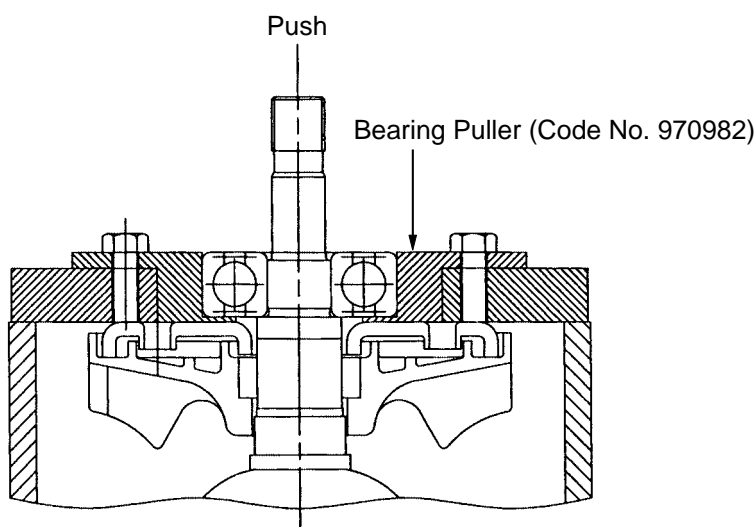

Fig. 11
1. Open the Lever **[31] <31> (31)** and loosen the Bolt M8 x 22 **[32] <32> (32)**, and remove the Wheel Guard Ass'y **[36] <36> (36)**.
2. Loosen the Tapping Screw (W/Flange) D4 x 16 (Black) **[49] <48> (49)**, and remove the Brush Cover **[48] <47> (48)**.
3. Remove the two Carbon Brushes **[50] <49> (50)** from the Brush Holders **[53] <52> (53)**.
4. Remove the four Tapping Screws (W/Flange) D5 x 35 **[2] <2> (2)**. The Armature **[13] <13> (13)** can then be taken out simultaneously with the Gear Cover Ass'y **[5] <5> (5)**, Packing Gland **[27] <27> (27)** and related parts.
5. Remove the four Hex. Socket Hd. Bolts (W/Flange) M5 x 16 **[28] <28> (28)**.
6. After removing the two Seal Lock Screws (W/Sp. Washer) M5 x 14 (Black) **[1] <1> (1)**, the Armature **[13] <13> (13)** can be extracted together with the Bearing Cover (A) **[12] <12> (12)** and related parts.
7. Carefully wrap the Armature **[13] <13> (13)** with a soft, clean rag to protect it from being damaged, and clamp it securely in a vise. Then, remove the Special Nut M10 **[6] <6> (6)**, and extract the Pinion **[7] <7> (7)**.
8. For the models indicated under Fig. 11, the Ball Bearing 6301DDCMPS2L **[10] <10> (10)** can be removed from the Armature **[13] <13> (13)** by utilizing a J-204 Bearing Puller (special repair tool, Code No. 970982) as illustrated. After the ball bearing has been removed, Bearing Cover (A) **[12] <12> (12)** can be easily taken off.